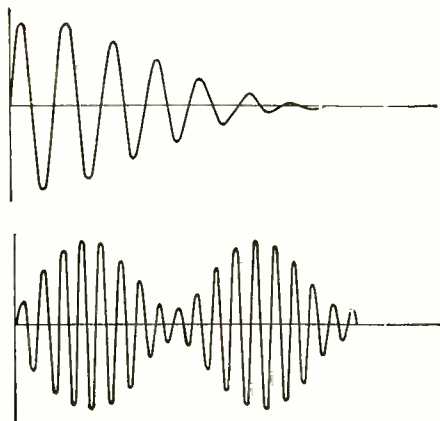

Fig. 1
Fig. 1 shows one form of the ST-100 circuit. There are several possible modifications of this arrangement, and these modifications will be described in future issues of Radio News.
**I**N the former article of this series published in the August issue, the author discussed the most important methods of detection for radio waves whose amplitudes varied, that is for radio waves such as sent out by the radio telephone broadcasting stations, and the spark telegraph signals sent out by most coastwise sailing ships. These radio waves when photographed by some form of oscillograph have the appearance shown in Fig. 1. The subject of the present article is the detection of radio waves whose amplitudes do not vary but are constant, such as are sent out by arc sets, the powerful alternators used for trans-Atlantic signaling, and